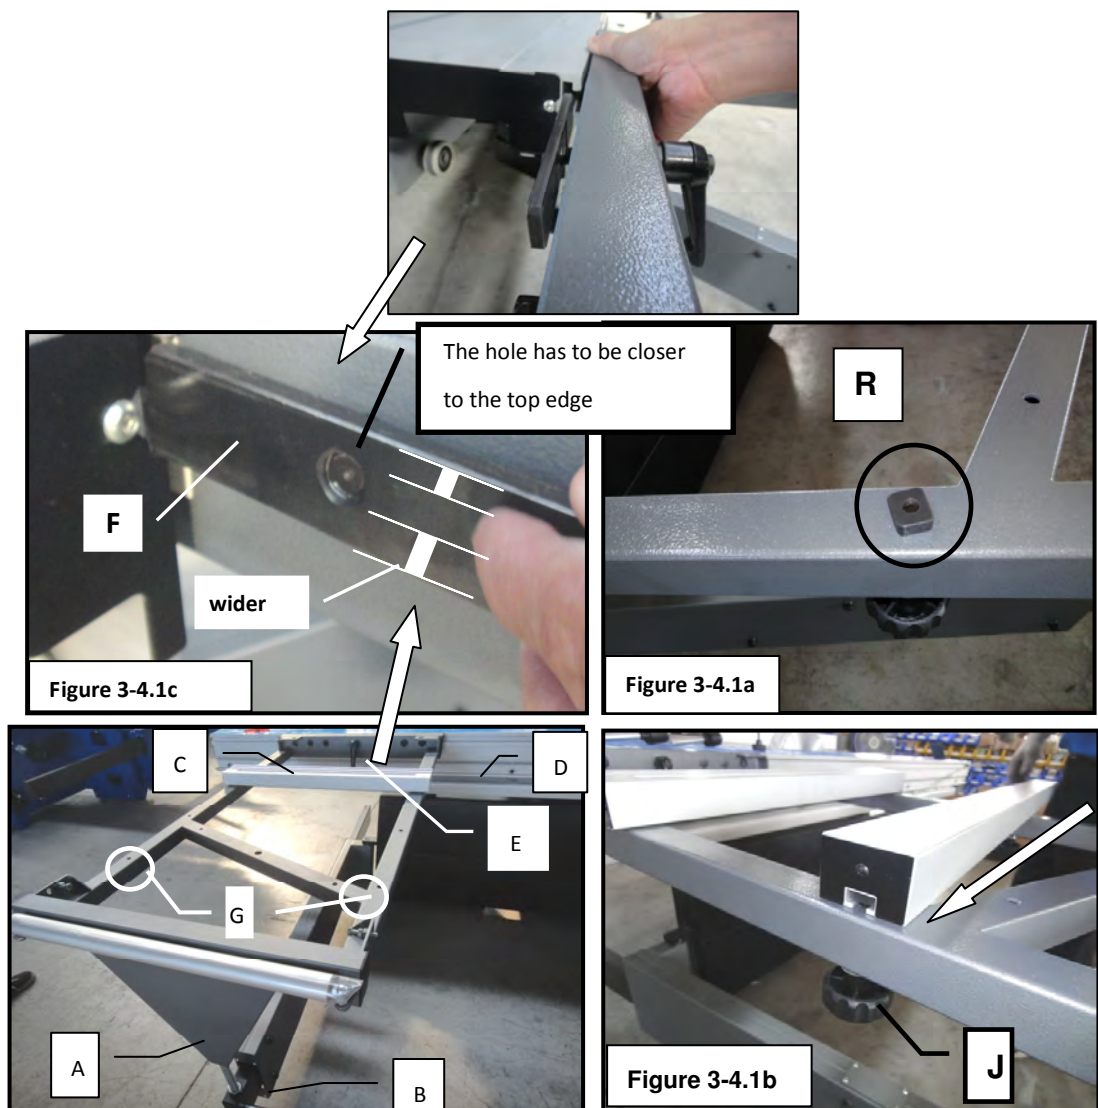

Figure 3-4.1
1. Fit the crosscut frame by putting **A** (Fig. 3-4.1) into the end of swing arm **B**(Fig. 3-4.1). At the same time, fit frame **C** (Fig. 3-4.1) by insert fix plate **F** (Fig.3-3.1c) of the crosscut frame to groove **D** (Fig. 3-4.1) of the sliding table.
2. Make sure **A** (Fig. 3-4.1) is placed properly in the swing arm **B** (Fig. 3-4.1).
3. Tighten lever **E**(Fig. 3-4.1)
※ Notice: To move or take off the crosscut frame, withdraw lever **E**(Fig. 3-4.1)
1. Fit the T-nut **R** (Fig. 3-4.1a) into crosscut frame holes **G** (Fig. 3-4.1) then slide the square support pipe in (see arrow of Fig. 3-4.1b).